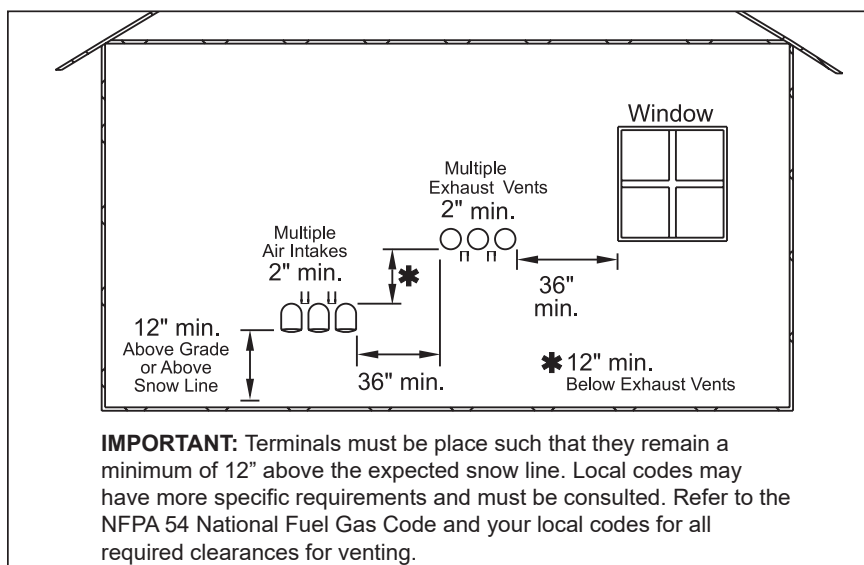

Figure 5. - Multiple Side-Wall Terminals, Air and Vent
6. Multiple vent kits should be installed such that the horizontal distance between the outlet group and the inlet group is 36" (90cm). (See Figure 5.)